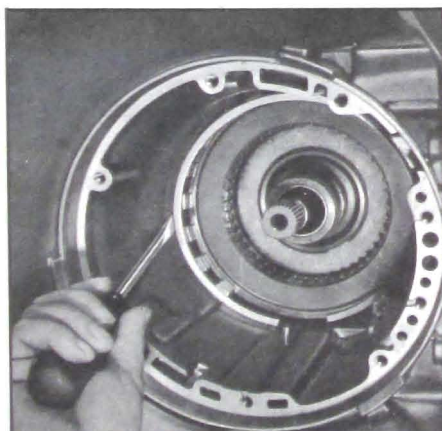

Figure 5-718
14. Install the backing plate to case snap ring. Gap in snap ring should be opposite anchor pin. See Figure 5-718.